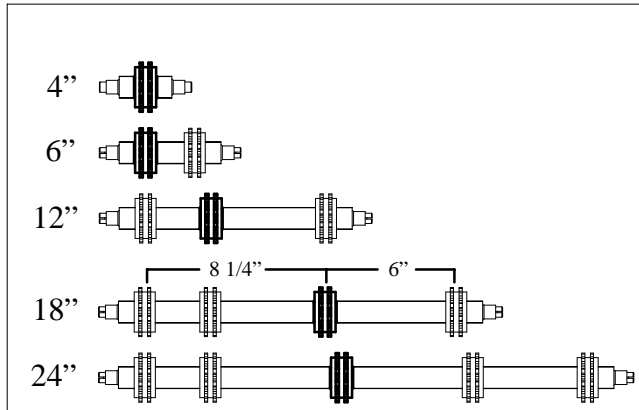

Figure 53
2. As required, install free moving sprockets as per Figure 53, items in bold are the fixed drive sprockets.